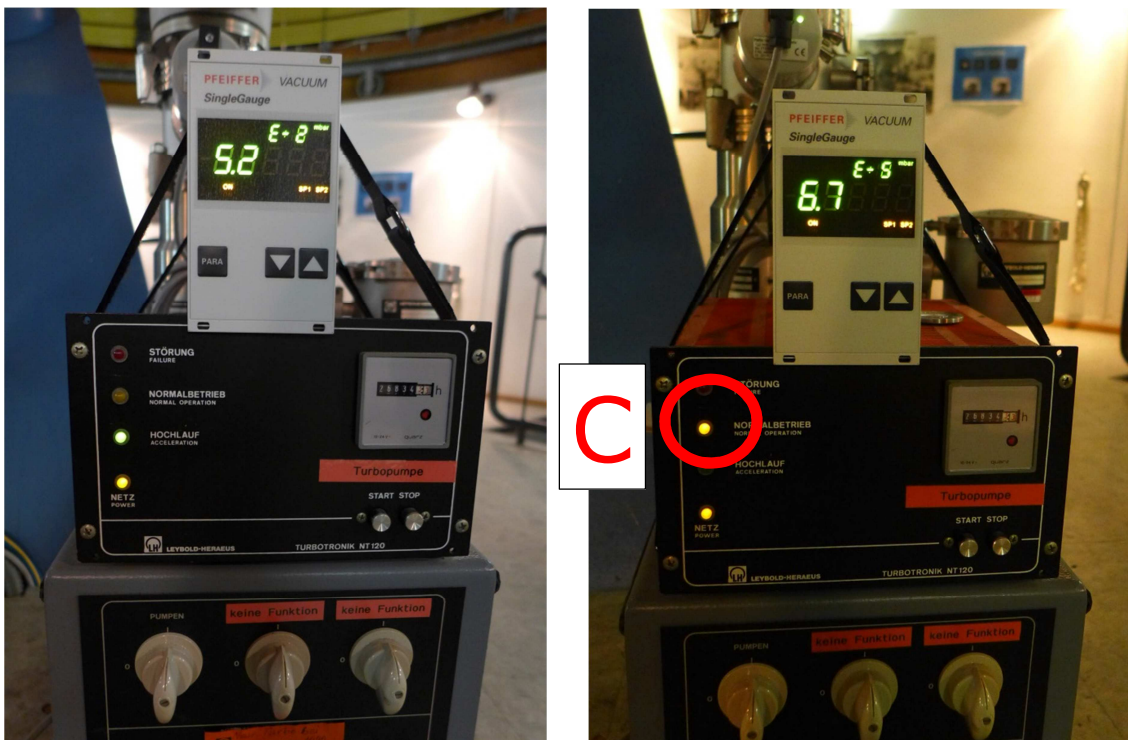

Figure 5-8: Left: TMP still accelerating. Right: TMP at nominal speed.
- h) Wait until **TMP** is in “normal operation” (Figure 5-8, C).